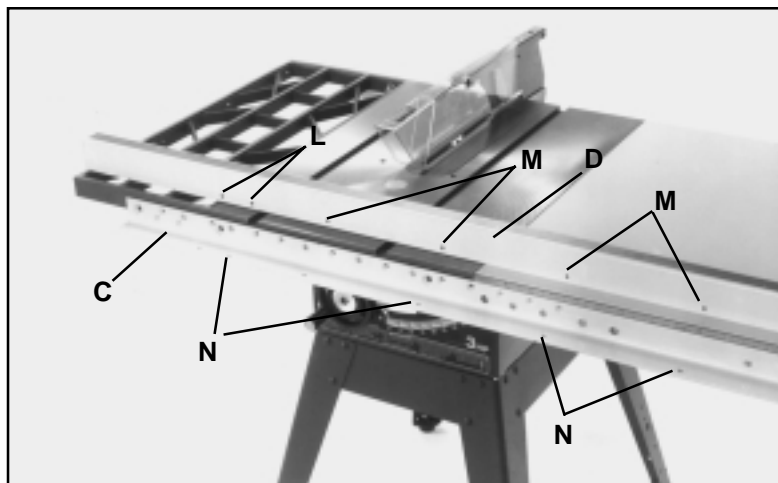

Fig. 23
1. Lay the guide tube (D) Fig. 23, on saw table as shown, and line up the threaded holes (M) on bottom of guide tube (D) with the through holes (N) on the front rail (C). **IMPORTANT:** If a switch adapter is being used for Delta 10" Contractor's Saws to mount switch to rail and guide tube, holes (L) are used to mount the Contractor's Saw switch adapter. On saws other than Delta Contractor's Saws, a special bracket must be constructed to permit mounting the switch to the bottom of the front rail.
2. Lay the guide tube (D) Figs. 23 and 24, on the front rail and fasten the guide tube to the rail using the 1/2" long hex head screws and lockwashers in all holes except the ones used to fasten the switch adapter, If applicable.